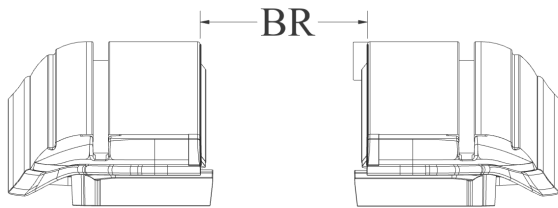
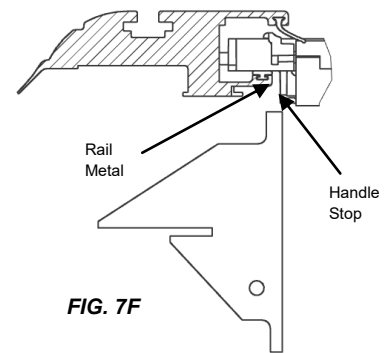

FIG. 7C
FIG. 7F
Now tighten your clamp turn knobs hand tight. Finally, check for proper spacing by measuring between the rails by attempting to insert the BR Gauge in between the rail metal and the handle stop (*FIG 7F*). You can also check the between the rail measurement at the canister and the tailgate end of the rails. The measurements should be equal to or less than those in Figure 7C. The Clamp Extensions have been pre-installed with brackets and shims to achieve the proper Between the Rail dimension (BR) when placed on an average factory truck bed. However, not all truck beds are average dimensionally and some have optional plastic caps or over the rail spray-in liners.